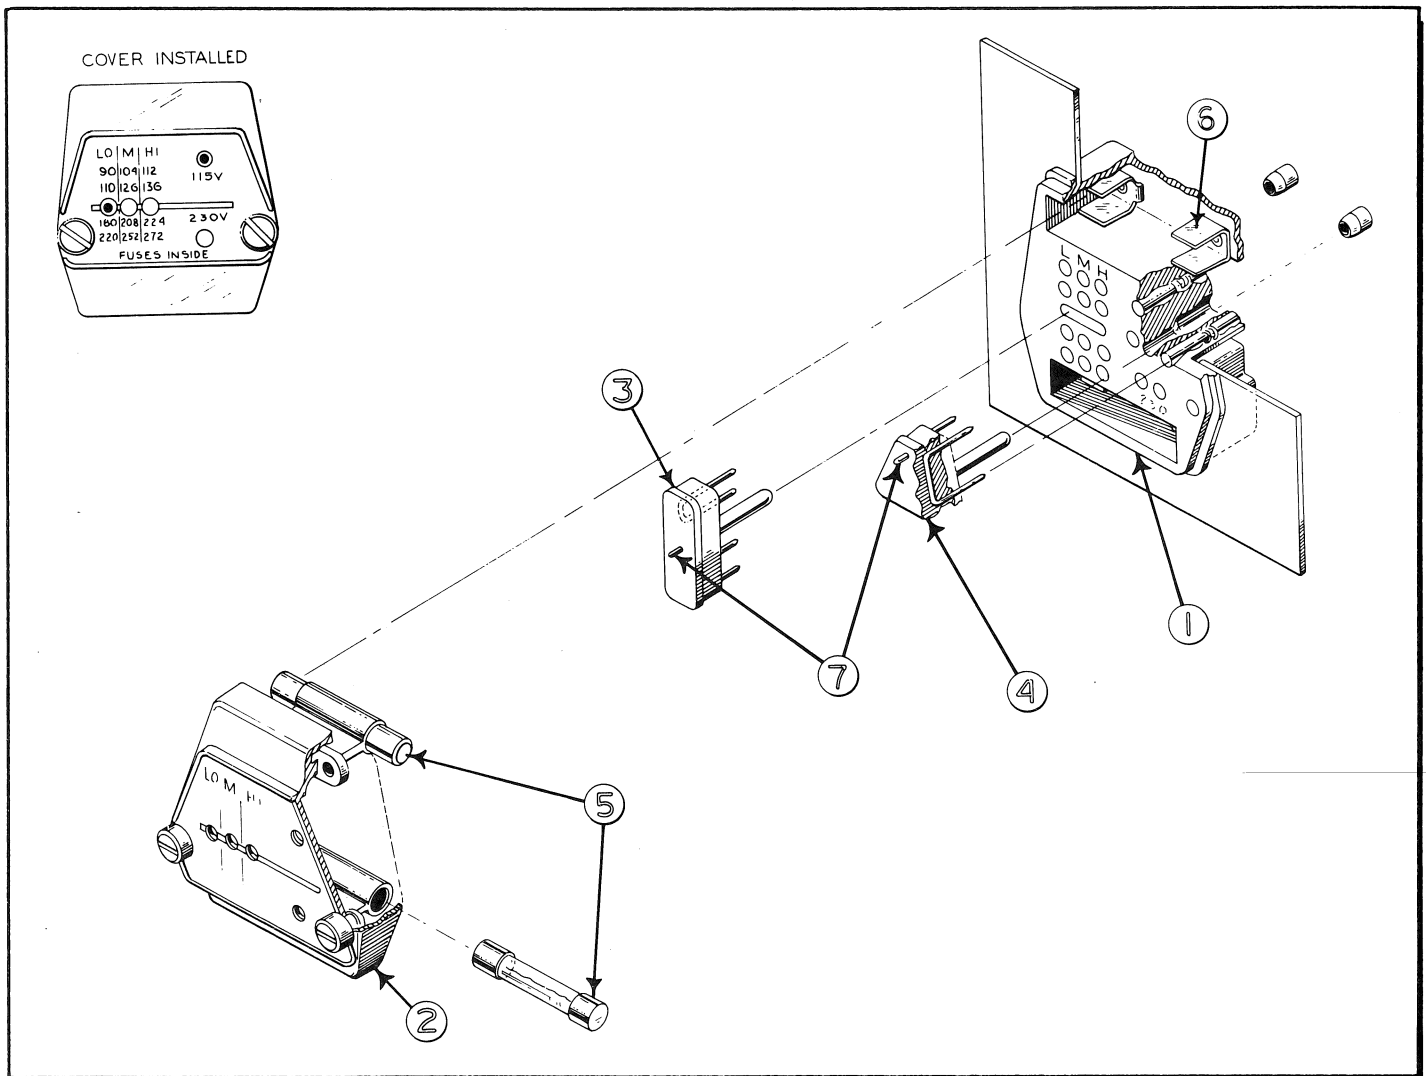

FIGURE 1.
7. A new Line Voltage Selector assembly is added to the rear panel and the power cord is permanently attached to the instrument. Operation of the selector is shown in Figures 1 and 2.
The voltage selection device shown in Fig. 1 provides a rapid and convenient means for adapting an instrument to a wide variety of line voltage conditions. Input circuit combinations are clearly indicated for visual examination and appropriate line fuses are automatically selected when adaptive changes are made. It consists of four parts (1) selector body, (2) selector cover, (3) voltage range selection plug, and (4) 115V-230V selection plug.